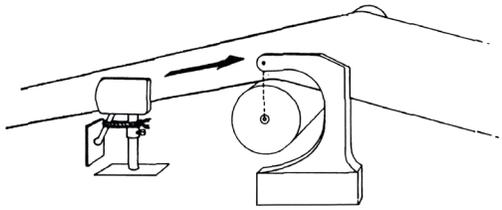

FIGURE 2. Centering guide roll during installation.
6. If the box cannot be placed in the right position, the usual procedure is to pull the fabric completely on the machine without moving the box and join the seam even if the fabric is not in the right position and alignment. If you do this, turn the guide palm to the side and tie it off (Figure 2) so that the guide roll is centered and the fabric will go on straight. When seaming is complete, turn the guide palm back to its normal position and untie it before the machine is started up.